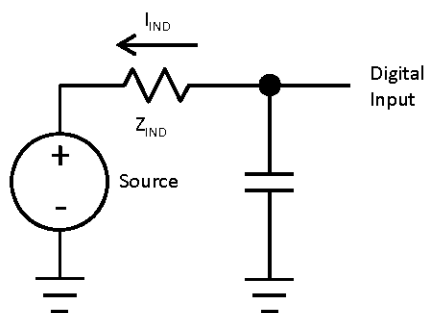

Figure 2. 5 V Tolerant Input I_{IND} Parameter
5. Examples calculated using V_{IL} relation, V_{DD} , and $\max I_{IND}$: $Z_{IND} = V_{IL} / I_{IND}$. This is the impedance needed to pull a high signal to a level below V_{IL} due to leakage when $V_{IL} < V_{IN} < V_{DD}$. These examples assume signal source low = 0 V. See Figure 2.